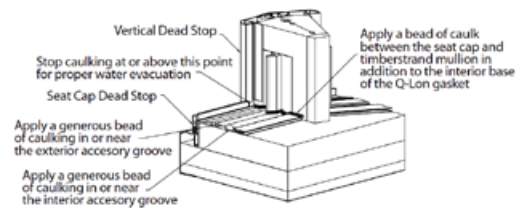

Figure C4
6. When applying the vertical beads of caulk, make sure to stop at bottom of profile before covering interior weep hole. Take care that you do not build up an excessive amount of caulk immediately above this area so that none squeezes into this opening during insert installation. **(Figure C4)**
- When applying caulk to the seat dead stop make sure to stay in between the interior weep holes. Take care that you do not build up an excessive amount of caulk immediately beside this area to minimize the amount that may squeeze into this opening during insert installation. **(Figure C4)**
8. Apply two beads of caulking (left to right) onto the seat cap in places where the insert window frame will make solid contact when put in place. In addition, apply 2 beads of caulking on each side of the opening (front to back) while paying special attention to filling behind Q-Lon V Gasket. **(Figure C4)**
9. Check bottom corners of opening where the interior weep holes are located to make sure that no caulking or obstruction is present before installing insert window. **(Figure C4)**